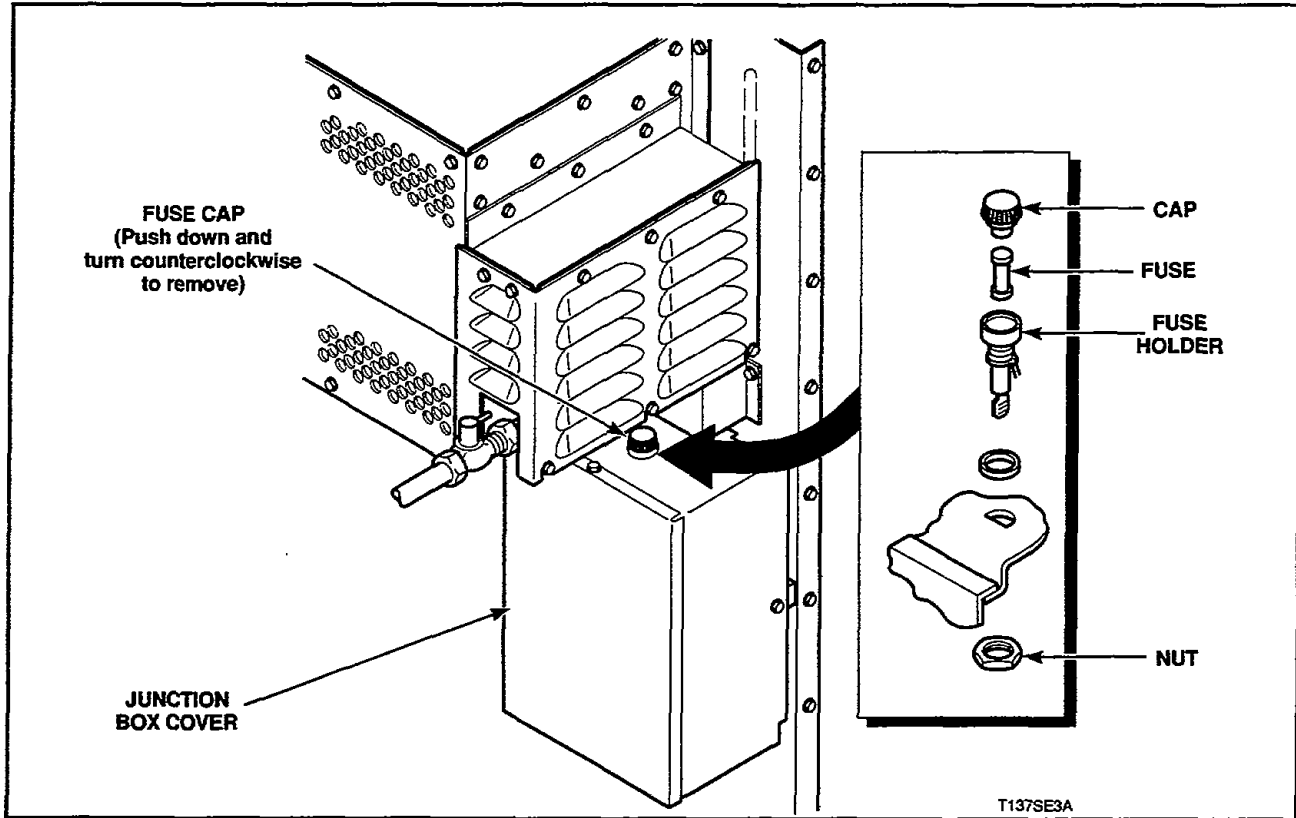

Figure 10
- Turn fuse cap counterclockwise to remove fuse, *Figure 10*.
- Remove junction box cover, *Figure 10*.